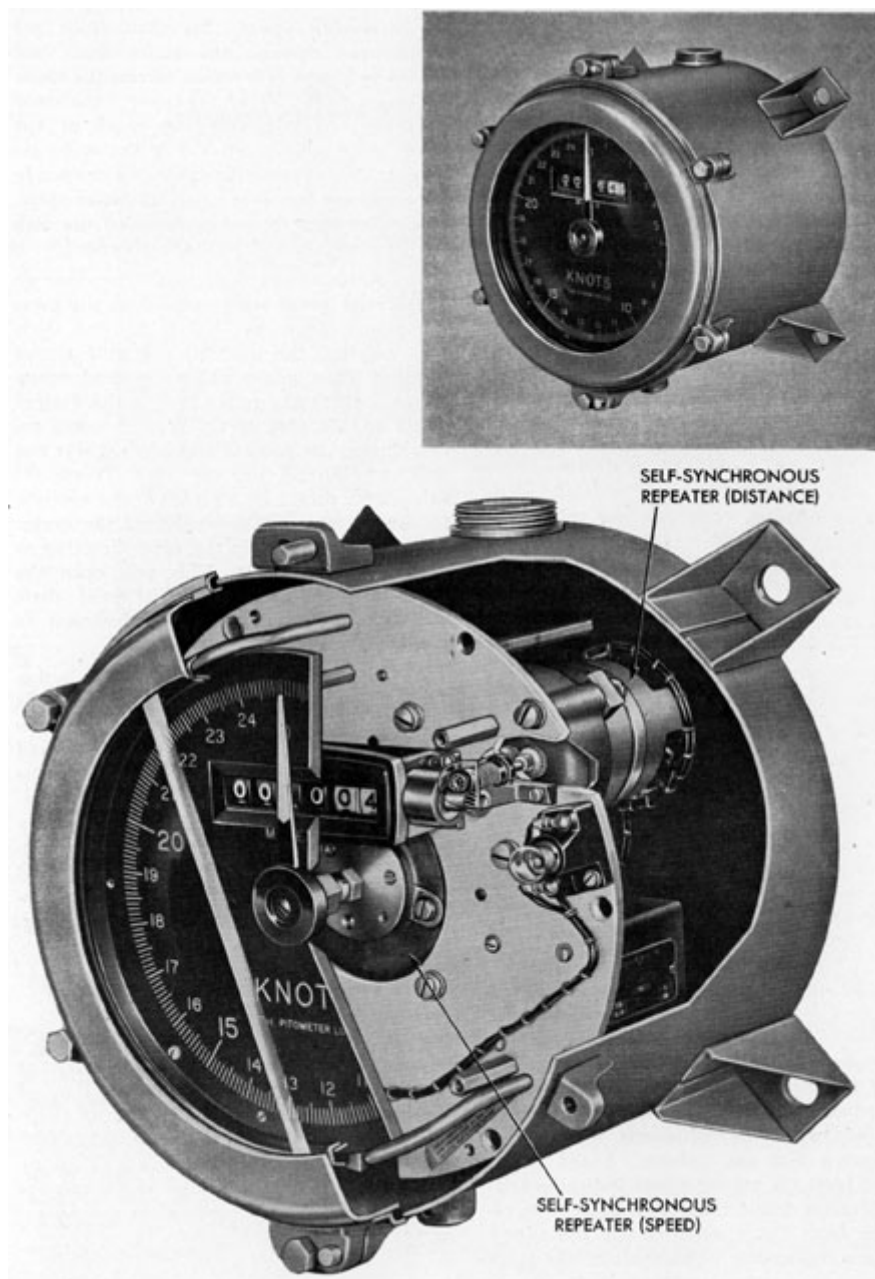

Figure 2-12. Cutaway view of speed and distance indicator.
**2G1. Speed and distance indicator.** The speed and distance indicator (Figure 2-12) is located in the conning tower. The unit consists of two self-synchronous repeaters, a counter, a dial and pointer. Speed is received from the master speed indicator self-synchronous transmitter, and distance is received from the transmitter in the rotary distance transmitter. The shaft of the large